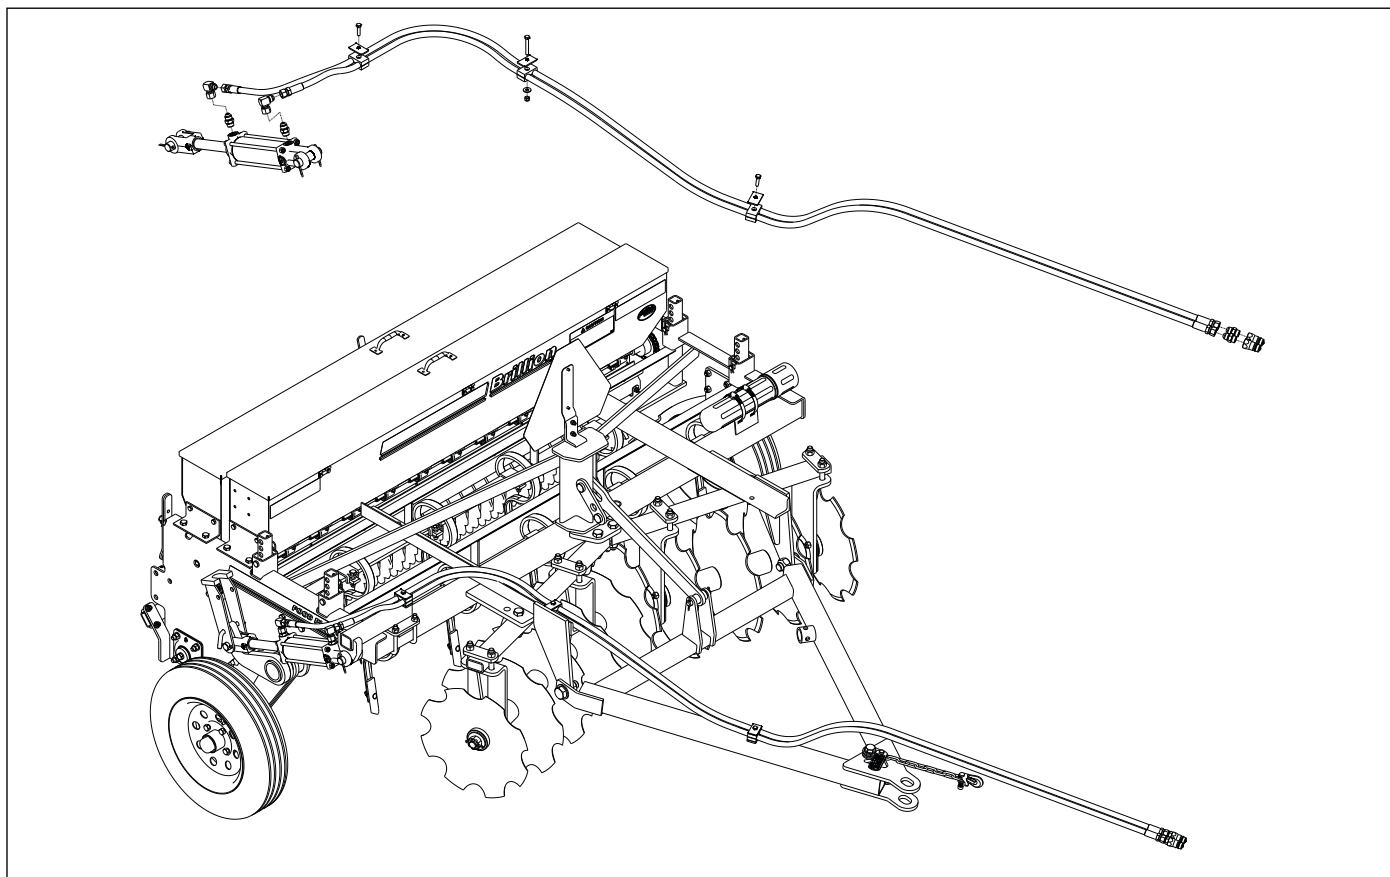

Figure 3-4: Hydraulic Hose Installation
3. Turn O-Ring end of each Adapter Fitting into each Coupler. Insert JIC end of Adapter into the end of each hose. **See Figure 3-4.** Tightening Procedure For JIC 37° Swivel Female Nuts